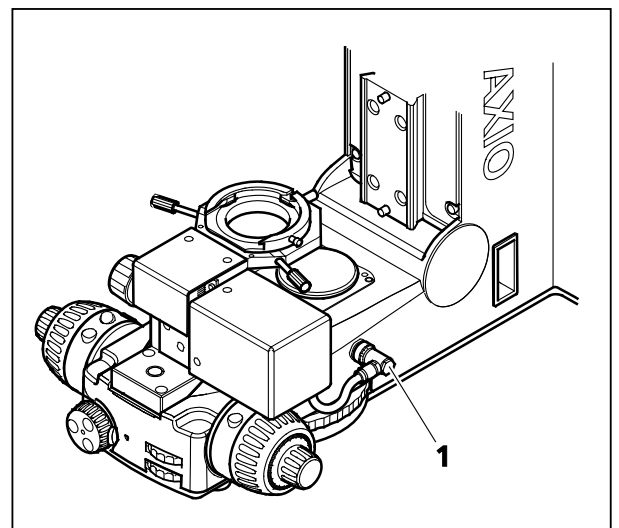

Figure 3-43 Connecting a mot. condenser carrier
- After assembly, connect the condenser carrier control cable (Figure 3-43/1) to the lower microscope part.